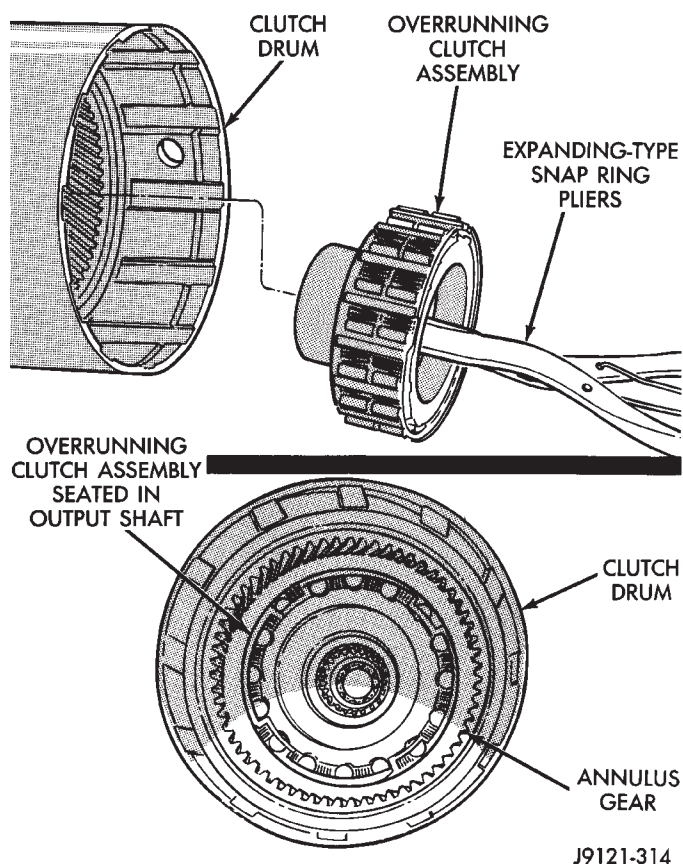

Fig. 225 Overrunning Clutch Installation
(10) Install overrunning clutch in output shaft (Fig. 225). Insert snap ring pliers in hub splines. Expand pliers to grip hub. Then install assembly with counterclockwise, twisting motion.